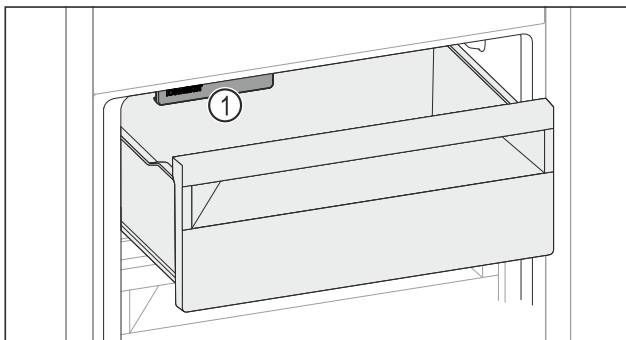

Fig. 46
- Watch out for the IceMaker Fig. 46 (1).